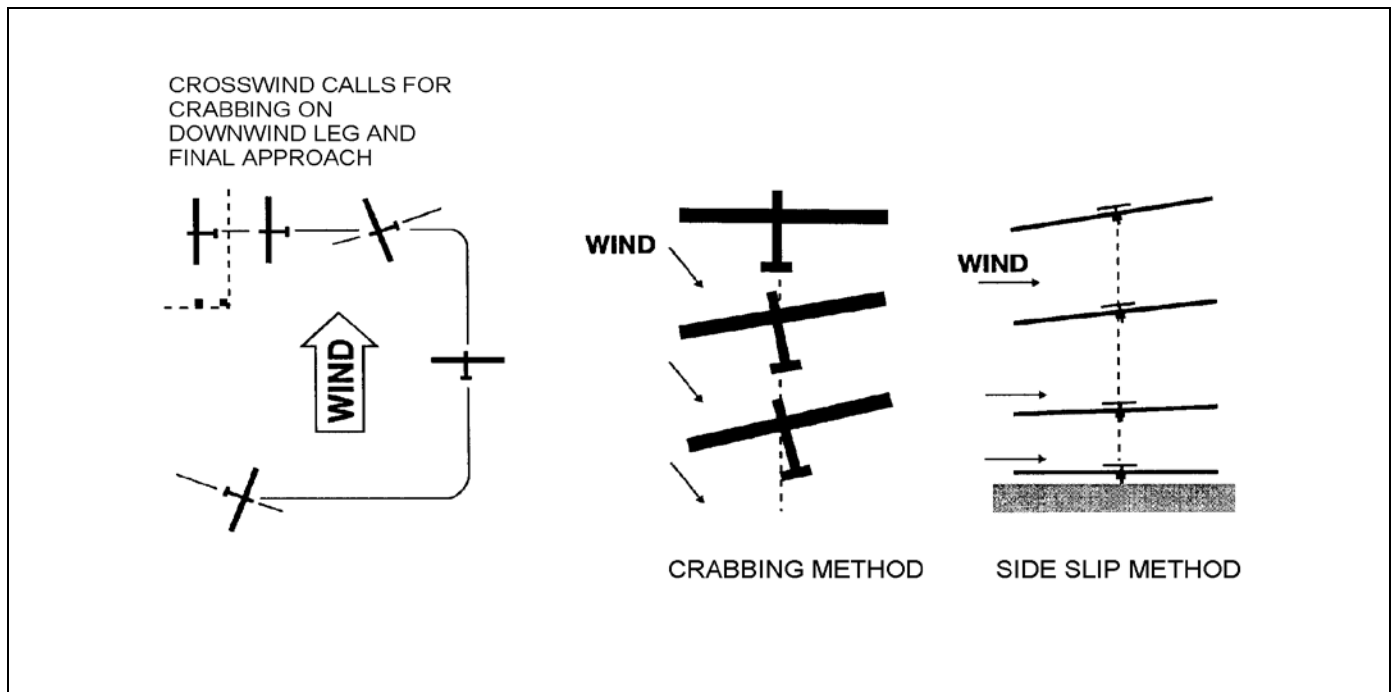

Figure 4-8 Options to Compensate for Crosswinds
- b. If the crosswind is strong on downwind, use crab to eliminate drift either away from or into the runway. See Figure 4-8. A 10 mph crosswind on downwind will require approximately 10 degrees of crab to eliminate the drift.